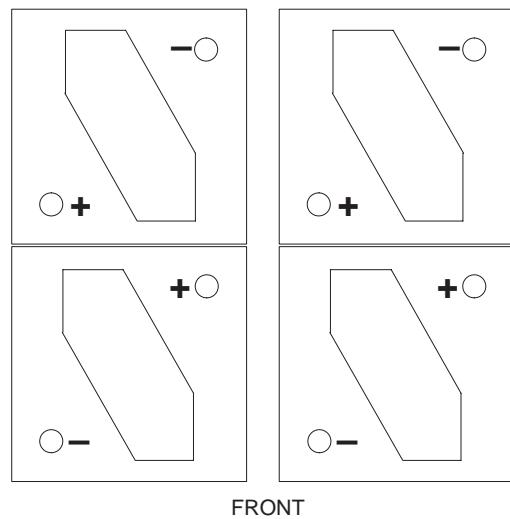

Figure 5-4 Layout for batteries in row 1
4. Install the four batteries onto the bottom tray in the cabinet so that the positive and negative terminals match the arrangement shown in Figure 5-4.
Figure 5-4 show a plan view of the batteries in row 1.